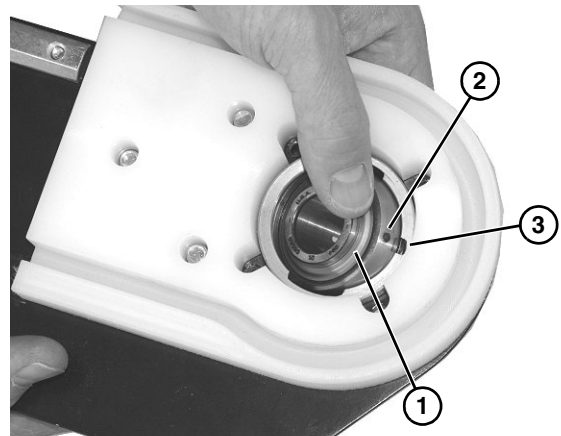

Figure 62
2. Insert bearing (**Figure 62, item 1**) into housing slot: Locate anti-rotation nub (**Figure 62, item 2**) to align with slot (**Figure 62, item 3**), and twist bearing into housing.